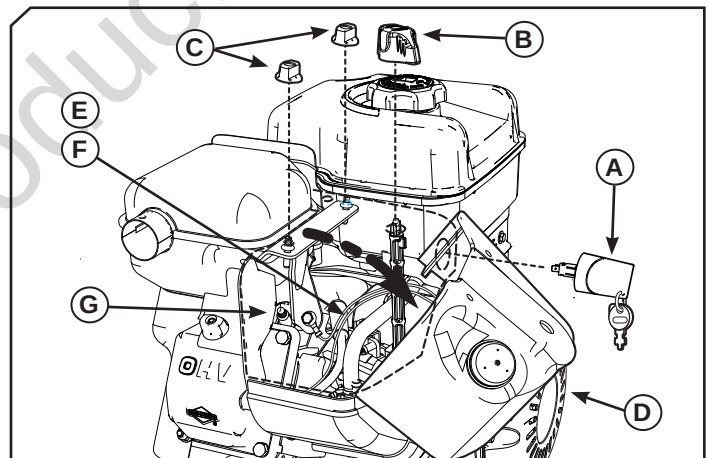

Figure 9
1. Turn the ON/OFF key (A, Figure 9) to the OFF position or remove the Push/Pull key, if equipped.
2. Grasp the choke control knob (B) and pull up to remove it.
3. Remove the mounting screws or knobs (C) on the snow hood.
4. Lift the snow hood (D) off the base and tilt it forward. Do not disconnect the primer hose (E) or the keyswitch wire (F).
5. Disconnect the sparkplug wire, then remove the sparkplug (G) to clean or replace it. See **Specifications**.